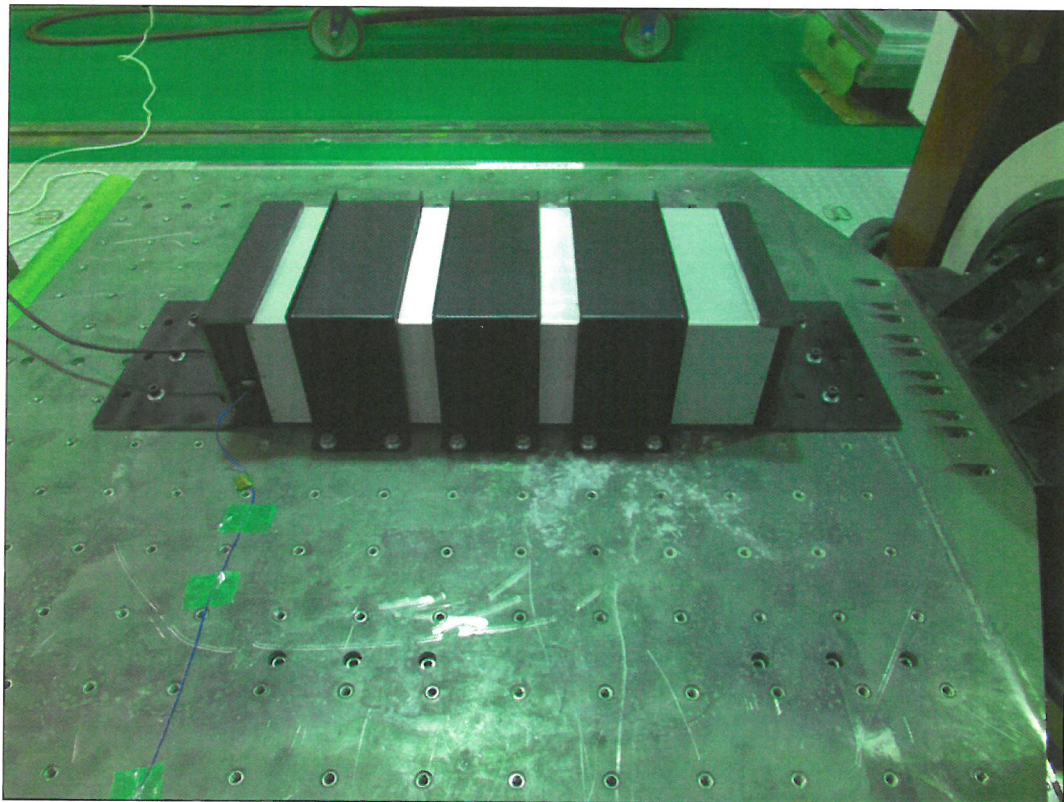

Fig.2 Show the DUT of Y_1 axis vibration test
- Fig.2 Show the DUT of Y_1 axis vibration test.